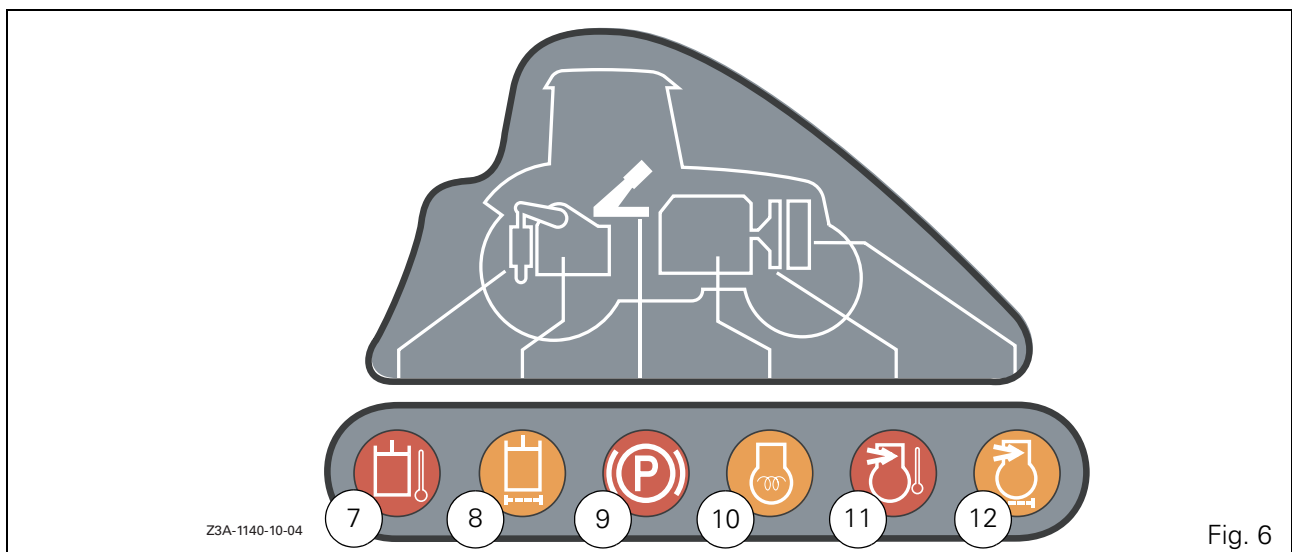

Fig. 6
3.2.2 Failure and parking brake control indicator lights (Fig. 6)	3.8
20. **Failure and parking brake control indicator lights (see details in Fig. 6).**
3.2.2 - Failure and parking brake control indicator lights (Fig. 6)